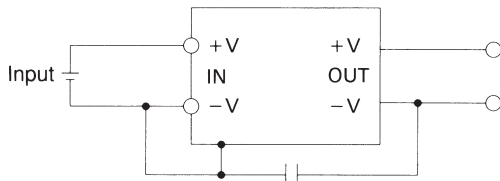

Fig.3.4 Circuit to reduce common mode noise
■Due to the high operating frequency, this converter generates a little common mode noise. In order to lower the noise further; install capacitor between -V input and -V output as shown below (Fig.3.4 Circuit to lower common mode noise).